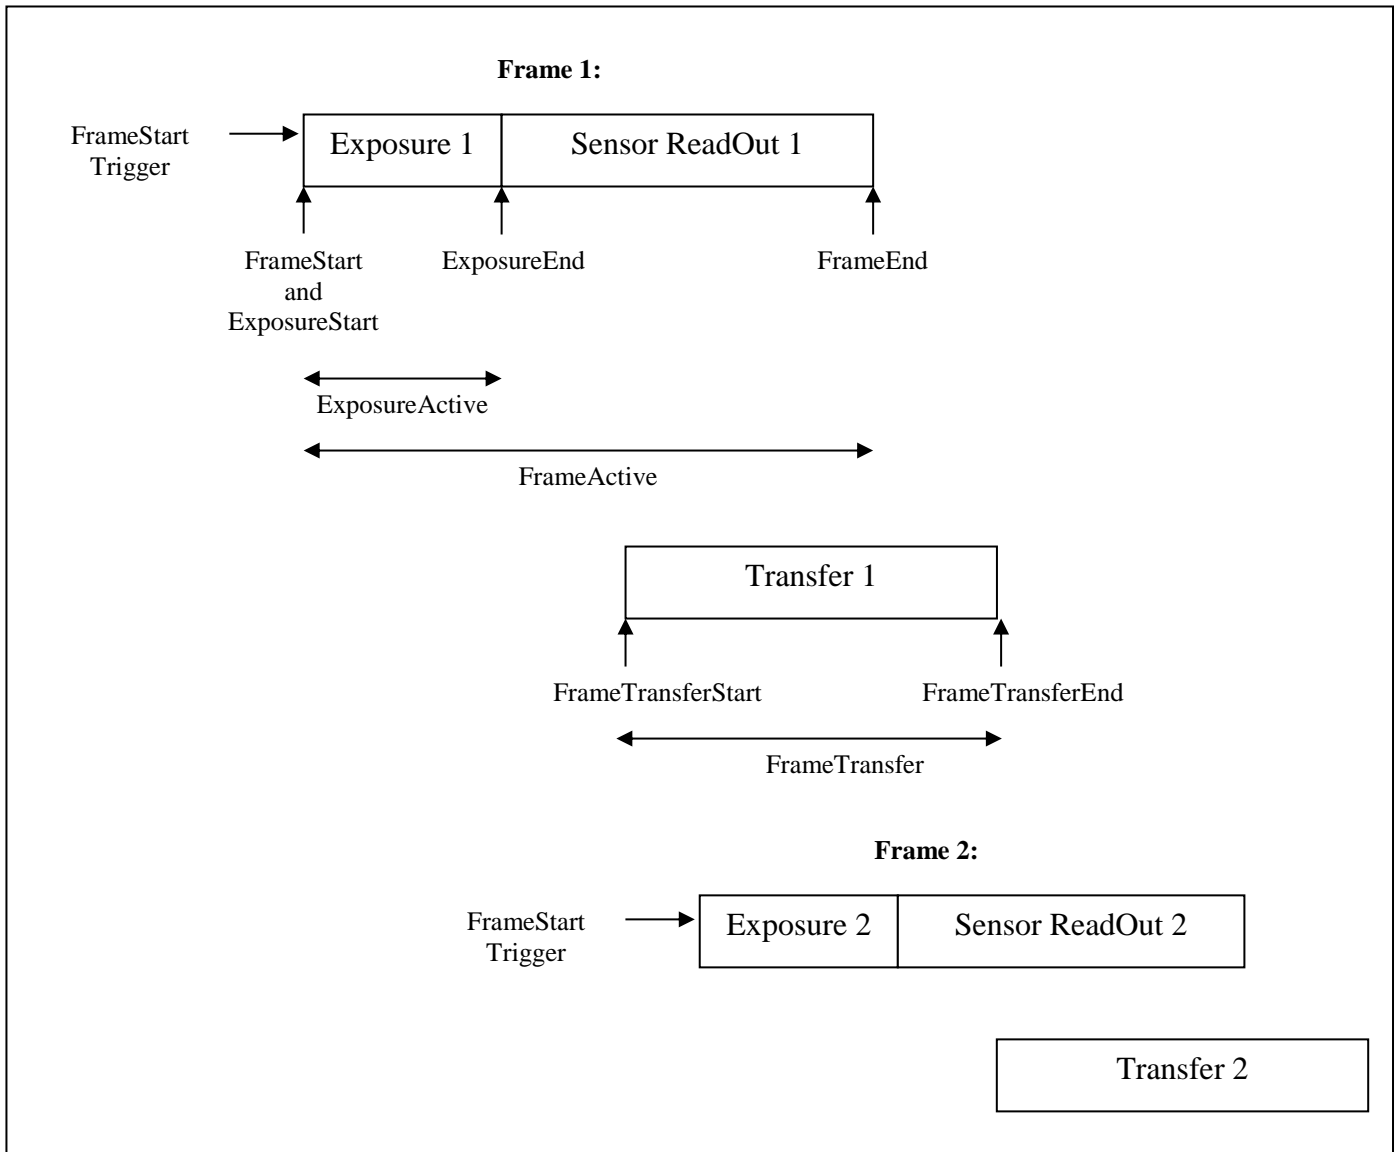

Figure 5-3: Frame signals definition
**AcquisitionStatusSelector** and **AcquisitionStatus** can be used to read the status of the internal acquisition signals. The standard acquisition signals Status are: **AcquisitionTriggerWait**, **AcquisitionActive**, **AcquisitionTransfer**, **FrameTriggerWait**, **FrameActive**, **ExposureActive** (See Figure 5-1 and Figure 5-3).